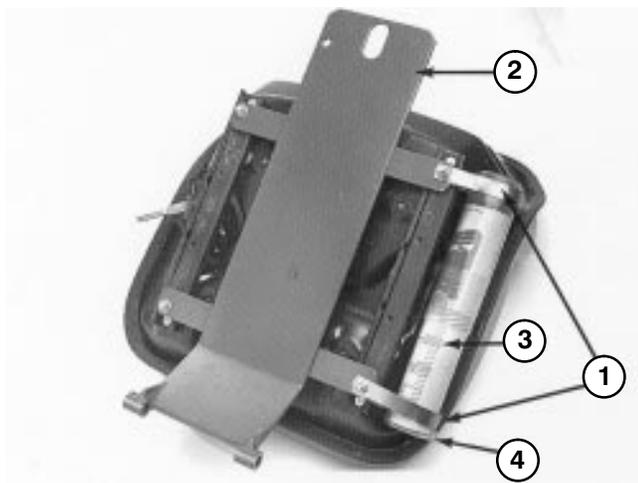

Figure 4
8. (Model 30739) Reinstall sealing plate to frame, above fuel tank with flange screw, truss head screw, (2) locknuts and spacer previously removed.
10. Loosely secure (2) R-clamps to right side of seat bottom with (2) capscrews and flatwashers supplied in kit (Fig. 4). Install manual tube into R-clamps and tighten capscrews (Fig. 4).